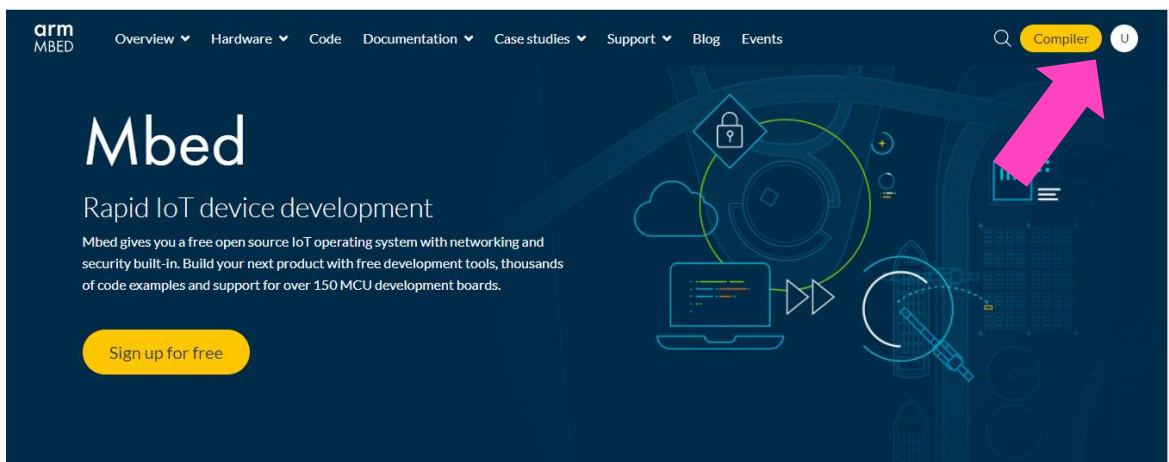

Figure 12.2 Mbed Dashboard
4. Click on the “Compiler” tab in the dashboard page, as shown in Figure 12.2.